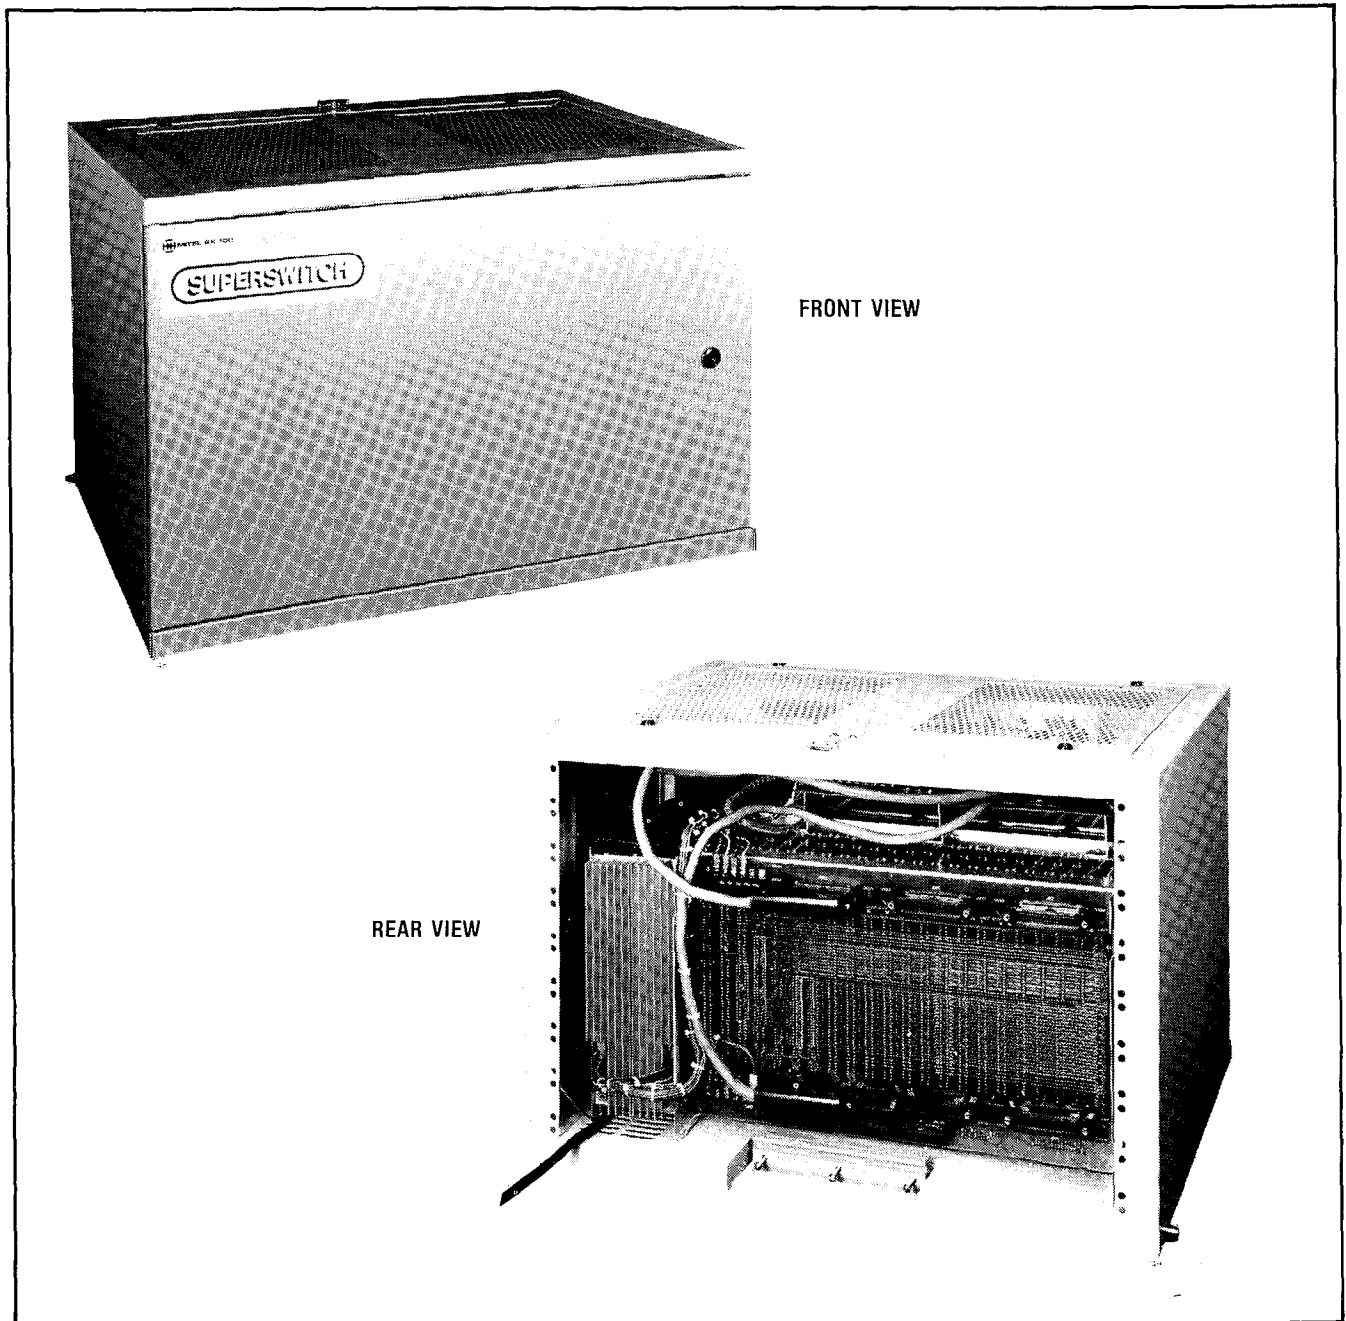

Fig. 4-1 Cabinet Layout
4.01 Fig. 4-1 illustrates the SX-100 cabinet layout.